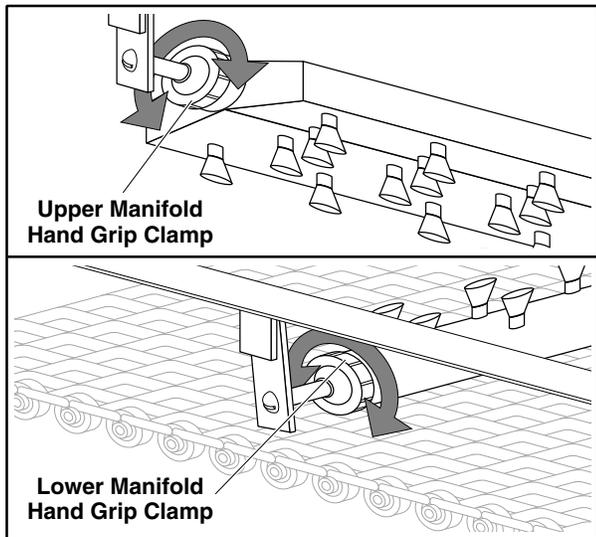

Figure 27: Scrapper Spray Manifold Hand Grip Clamp
- b. Unscrew the Manifold Hand Grip Clamp to loosen the Scrapper Spray Manifold (Figure 27).